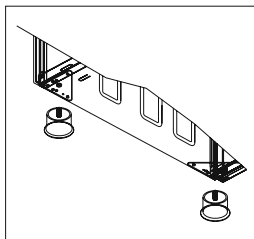
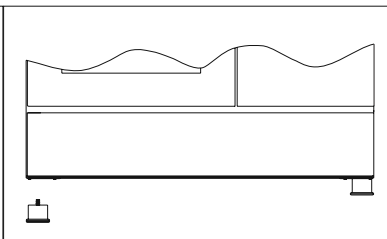

Fig. 10
Fig. 11
1. Foot attachment lath is installed on the oven from the bottom of the oven as shown in (figure 10). Nuts are centered on these lathes in order to screw feet. Complete the feet installation process by screwing the feet to the nuts (figure 11).